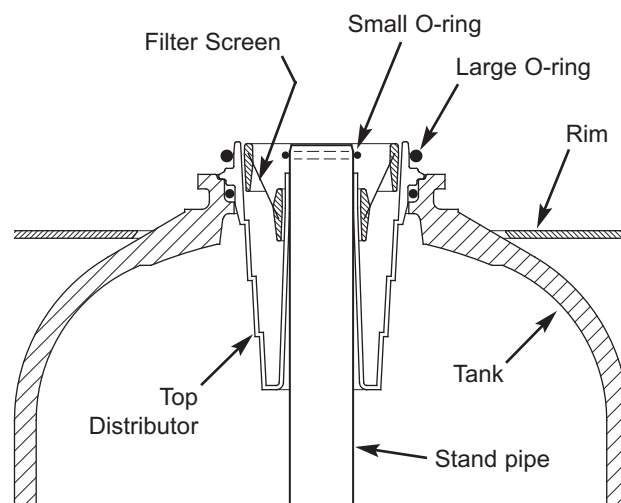

FIG. 98
7. Remove the small o-ring (See Figure 98).
9. Use water to flush the tank top opening. Then, replace the top distributor and o-ring. Be sure to locate o-ring seal correctly (See Figure 98).